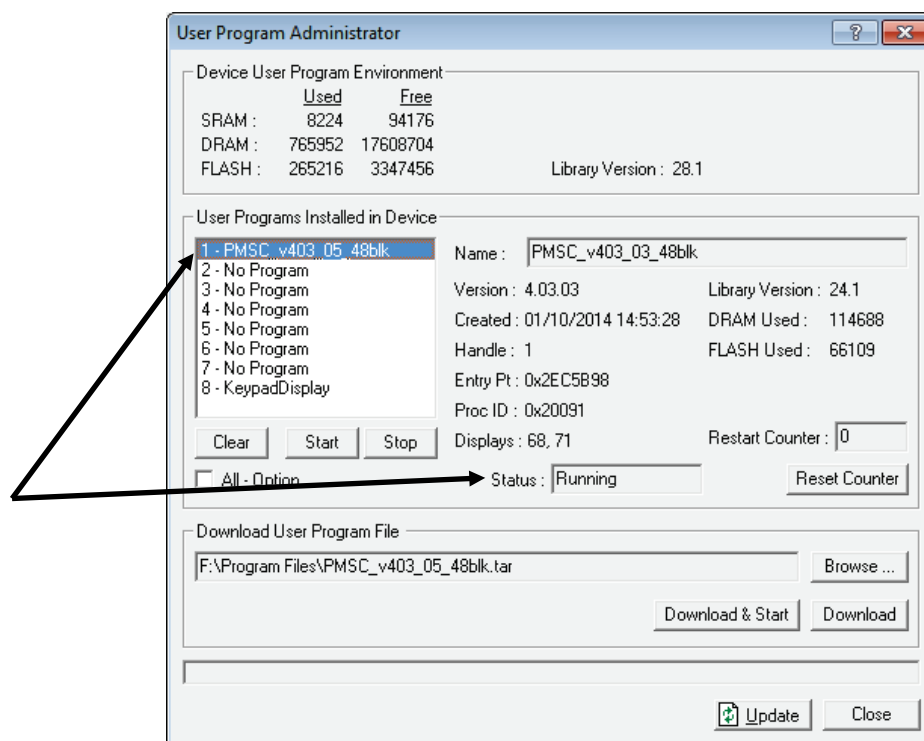

Figure 11. User Program Administrator
9. Click **OK**. The User Program Administrator screen displays (see *Figure 11*). Note that: